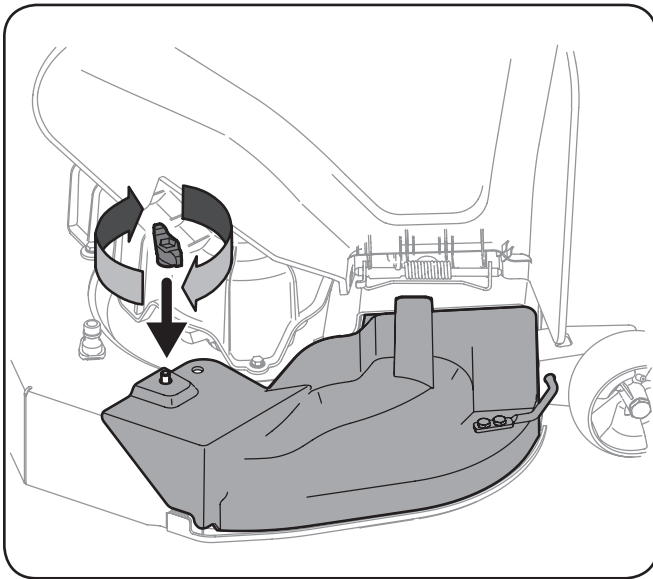
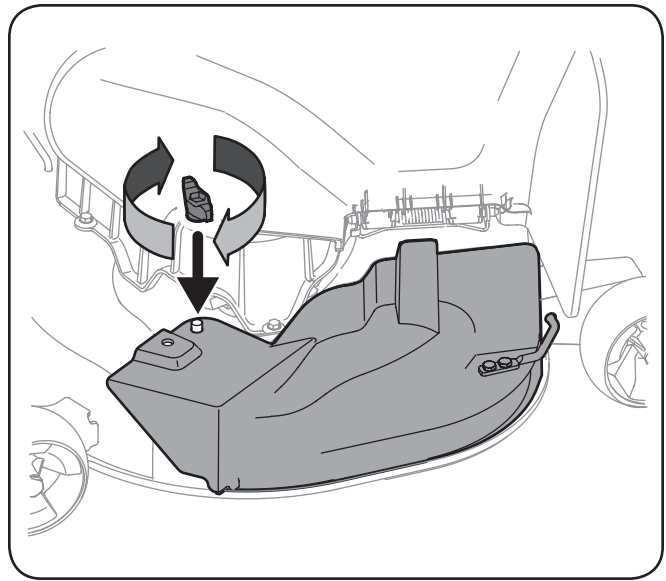

Figure 1-8
Figure 1-9
4. Secure the mulch plug in place with the wing knob. See Figure 1-8 (*fabricated decks*) or Figure 1-9 (*stamped decks*).